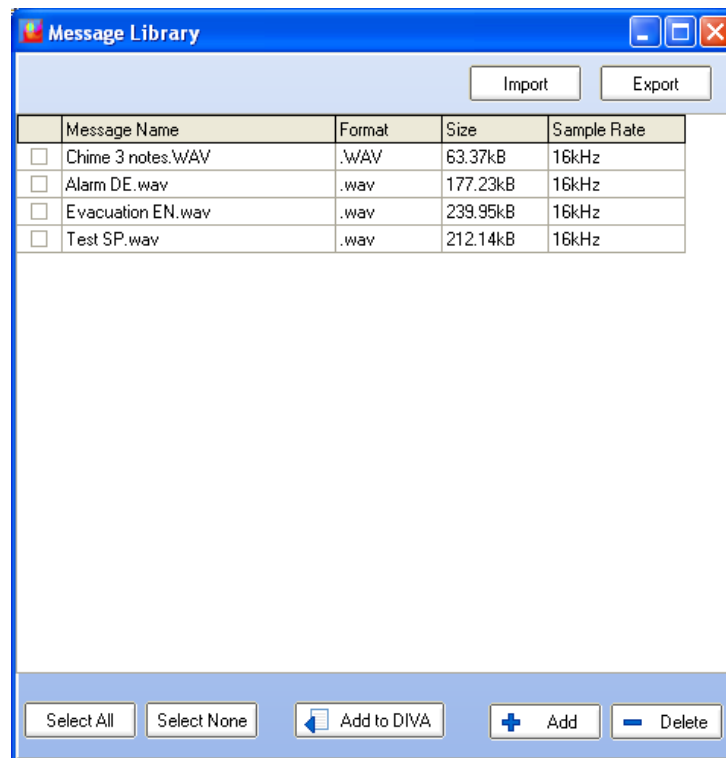

Figure 15: Message Manager Library page
- In the Library (Figure 15), all the messages in the library files are display. Simply tick the one you want, here all, to import into DIVA and click the “Add to DIVA” button. You will automatically return to Message page.